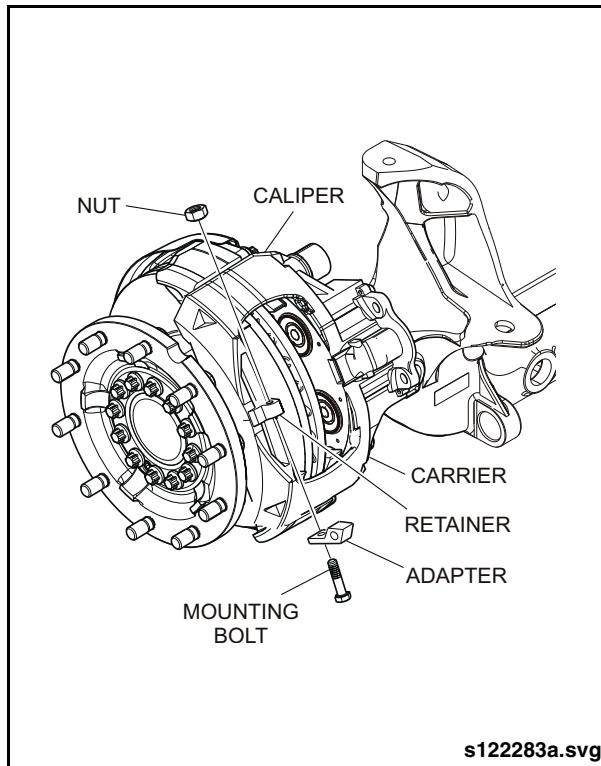

Fig. 1-50: Adapter Installation
- b. Install the adapter onto the brake caliper. See "Fig. 1-50: Adapter Installation" on page 55.